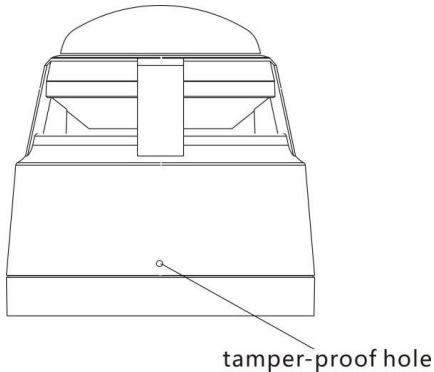

Fig. 4
2. If the sounder Beacon is required to be tamper-proof, fix it with ST2.9×5 self- tapping screws thought the tamper-proof hole (see Fig. 4)on the base.